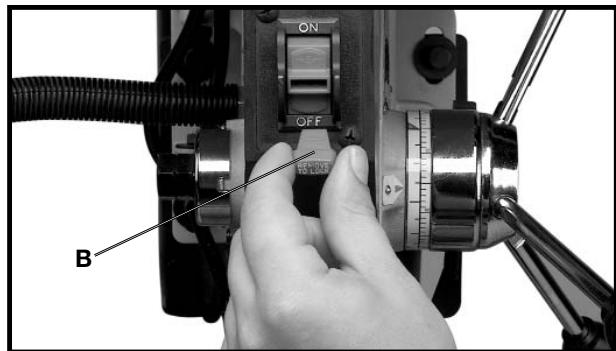

Fig. 19
IMPORTANT: When the machine is not in use, the switch should be locked in the “**OFF**” position to prevent unauthorized use. This can be done by grasping the switch toggle (B) and pulling it out of the switch, as shown in Fig. 19. With the switch toggle (B) removed, the switch will not operate. However, should the switch toggle be removed while the drill press is operating, the switch can be turned “**OFF**” once, but cannot be restarted without inserting the switch toggle (B).